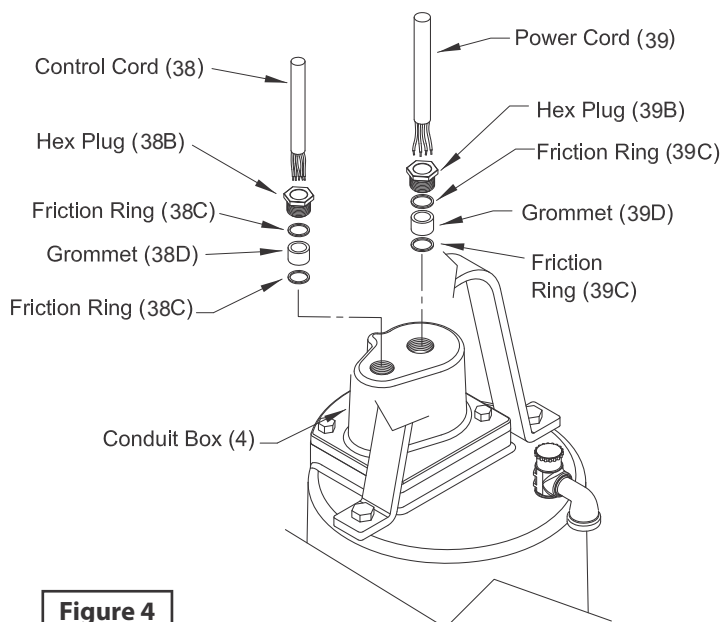

Figure 4
**Conduit Box Assembly** - Check power (38) and control cables (39) for cracks or damage and replace complete conduit box (4) if required. (See Figure 4) Bring motor wires through opening in top of motor housing (3), check sleeving and replace if damaged. Position square ring (5) in conduit box (4) and reconnect leads using connectors and insulators. See Figures 5, for wiring schematics.
Remove gland nuts (38B) and (39B), friction rings (38C) and (39C), and grommets (38D) and (39D) from conduit box (4), inspect and replace if damaged (See Figure 4). Reassemble by inserting one friction ring, grommet, one more friction ring and gland nut into conduit box. Torque gland nuts to 15 ft/lbs to prevent leakage.